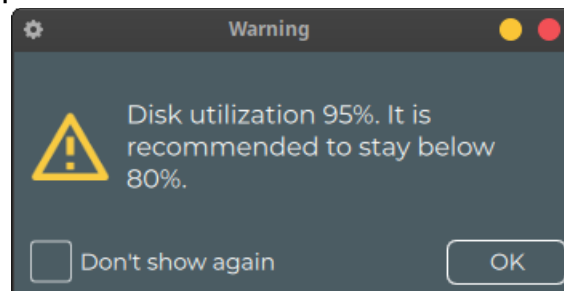

FIGURE 54 - DISK UTILIZATION
- **Disk Utilization:** To avoid the loss of data the HEDscan-GUI monitors disk utilization. If the disk utilization is over 80% a warning (Figure 54) will pop up to notify the user there is potential for data loss due to insufficient space.
- **Warnings:** Clicking this button will reset all warning pop-ups. For example, if the “Don’t show again” box is selected on the image in Figure 54, the pop will cease to appear until warnings are reset. FieldLine Medical recommends leaving warning pop-ups in place.